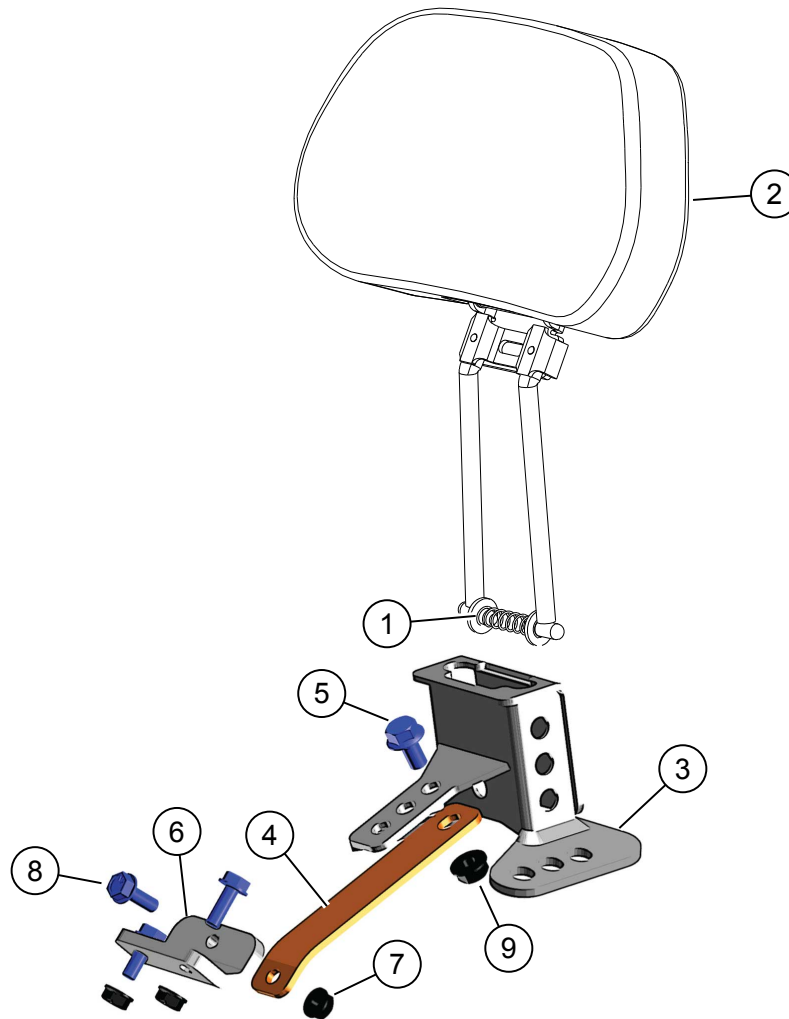

Figure 1. Kit Contents: Rider Backrest Components
2. See Figure 1. Remove plastic protective cap and locknut from stud.
4. With backrest mounting bracket tab facing forward, attach backrest mounting bracket (3) to stud plate with stock locknuts from stud plate.